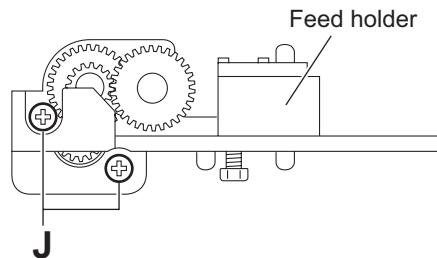

Fig.12
- (6) From the side of the feed holder, remove the two screws **J** attaching the feed motor. (See Fig.12.)